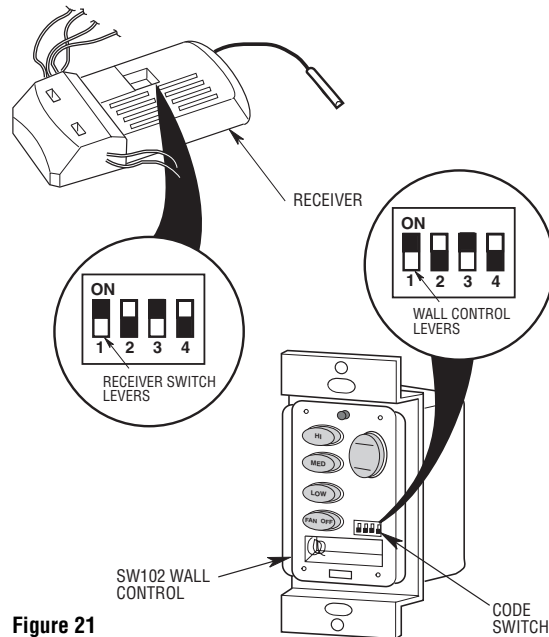

Figure 21
1. Slide the four switch levers in the wall control to your choice of ON (up) or down positions. Use a ball-point pen or small screwdriver and slide the levers firmly up or down (Figure 21).